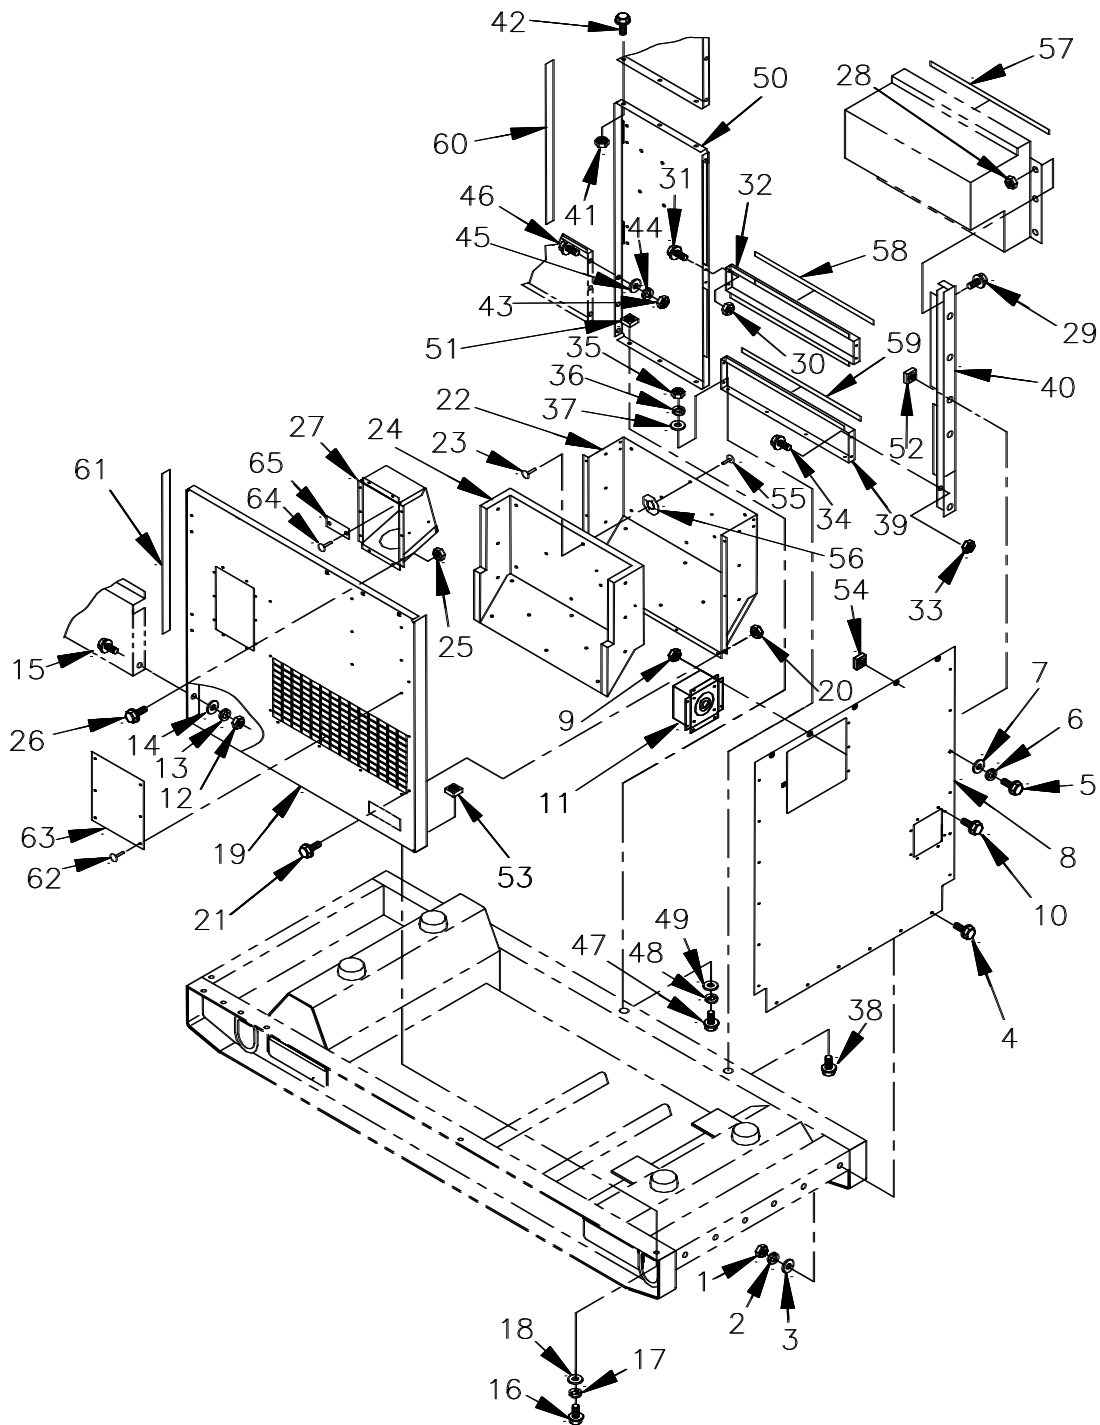

FIGURE 4-9. REAR HOUSING SECTION (SHEET 1 OF 2)
- (1) Shut down generator set, paragraph 2.11.2.
- (2) Inspect rear housing section panels for dents, cracks, loose paint, corrosion, and other damage.
- (3) Inspect cage nuts (51 through 54, Figure 4-9) for cracking or stripped threads.
- (4) Inspect insulation (24), clip halves (23,55), and push-on nuts (56) for damage or missing pieces.
- (5) Inspect output box EMI seals (57) for tears, looseness, and deterioration.
- (6) Inspect door seals (58 through 61) for tears, looseness, and deterioration.
- (7) Inspect data plates (63 and 65) for readability and loose or missing rivets (62 and 64).